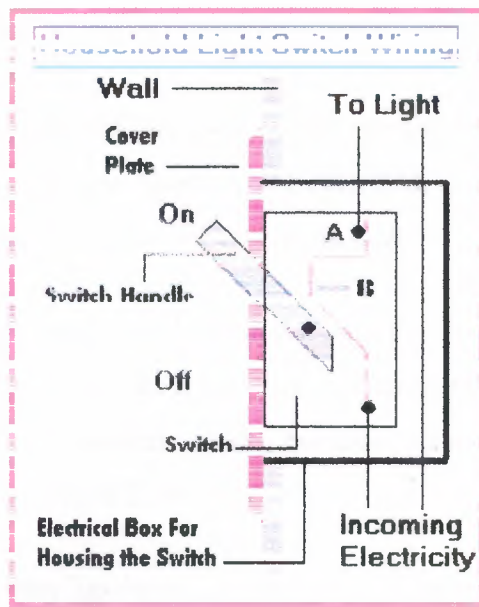

Figure 2.22 Household light switch wiring.
The inside of a typical household wall switch has a strip of metal (B), making contact with point 'A', completing the circuit and thereby conducting electricity to the light. This would obviously be the 'ON' position. When the insulated lever is moved down to the 'OFF' position, it pushes the metal strip away from point 'A', breaking the circuits and turning the light 'OFF', shown in figure.2.22